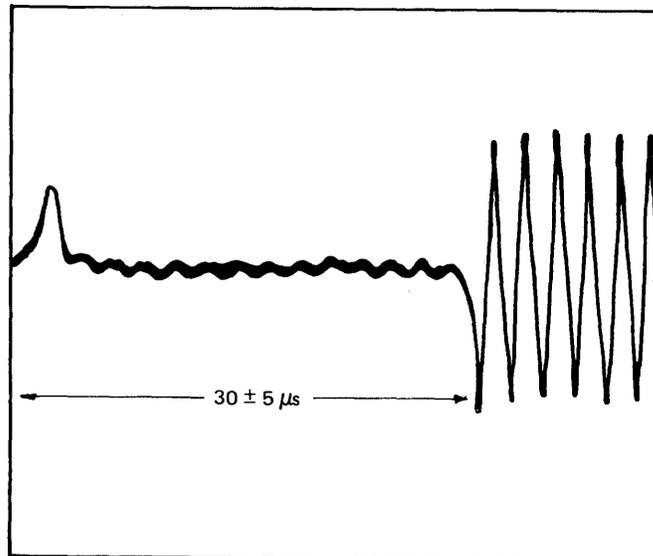

Figure 4-12. INDEX-To-Data Burst (Radial Alignment)
21. Observe the trace illustrated in figure 4-12. The period from INDEX to data burst must be $30 \pm 5 \mu S$. Adjust R55 on Read/Write board as necessary. Check this adjustment while selecting each head, and adjust so that both heads are within the tolerance of $\pm 5 \mu S$.